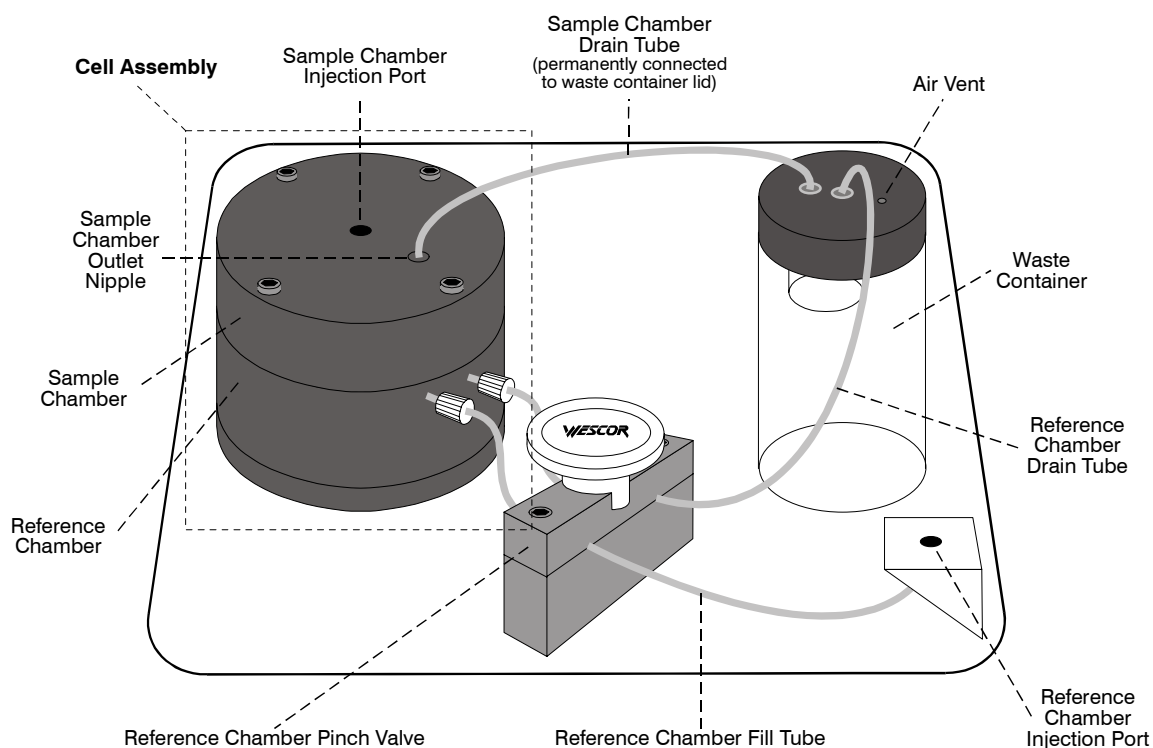

Figure 2-5 The cell assembly in the interior bowl
3. Remove the sample chamber drain tube from the sample chamber outlet nipple, shown in Figure 2-5.
1. Make certain that all drain and fill tubes are connected as shown in Fig. 2-5. Instrument power should be on (**POWER** indicator will be lit).